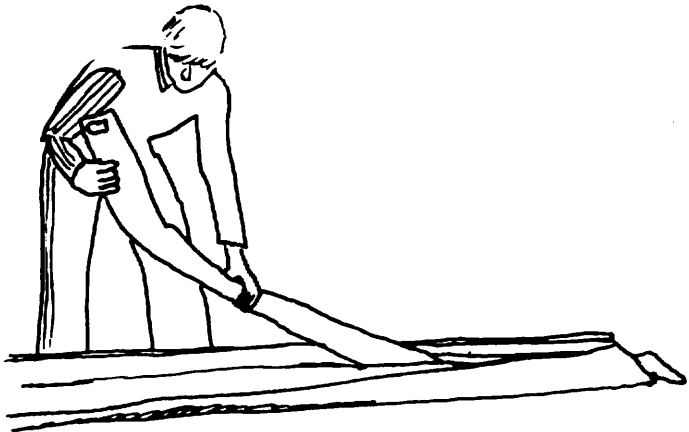

Fig 2
2) Undo the zipper, and remove the battens from between the rear leading edges as shown. (Fig 2)